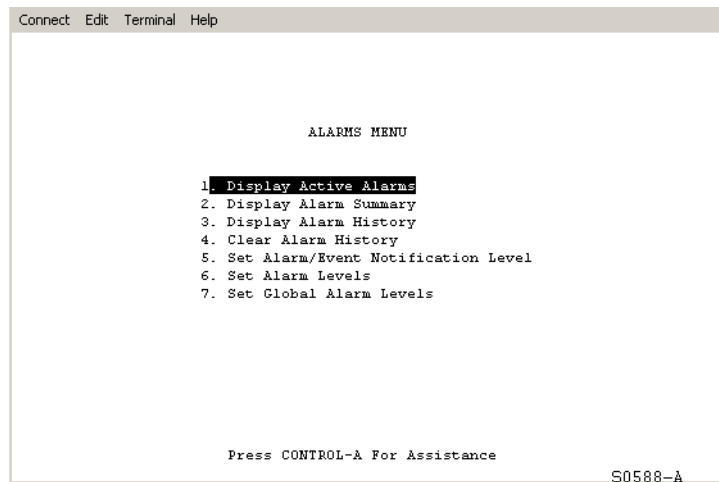

Figure 19. Alarms Menu
- 1 From the Main Menu, use the arrow or number keys to select **1. Alarms**. (Press **ENTER** if using the arrow keys.) The Alarms Menu appears (see Figure 19).
- From the Main Menu, use the arrow or number keys to select **1. Alarms**. (Press **ENTER** if using the arrow keys.) The Alarms Menu appears (see Figure 19 on page 30).
- 1 From the Main Menu, use the arrow keys or number keys to select **Alarms**. Press **ENTER** if using the arrow keys. The Alarms Menu appears (see Figure 19 on page 30).